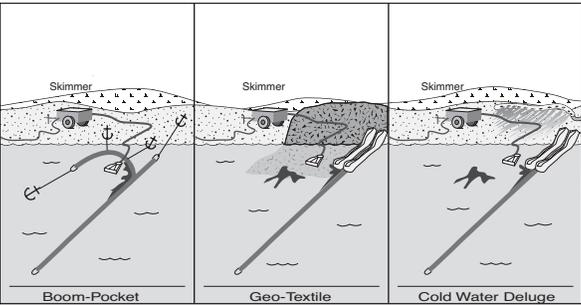

Figure G-2-15. Methods to keep oil from contaminating collection beaches.
- Use one of the methods shown in Figure G-2-15 to protect the collection site from contamination.